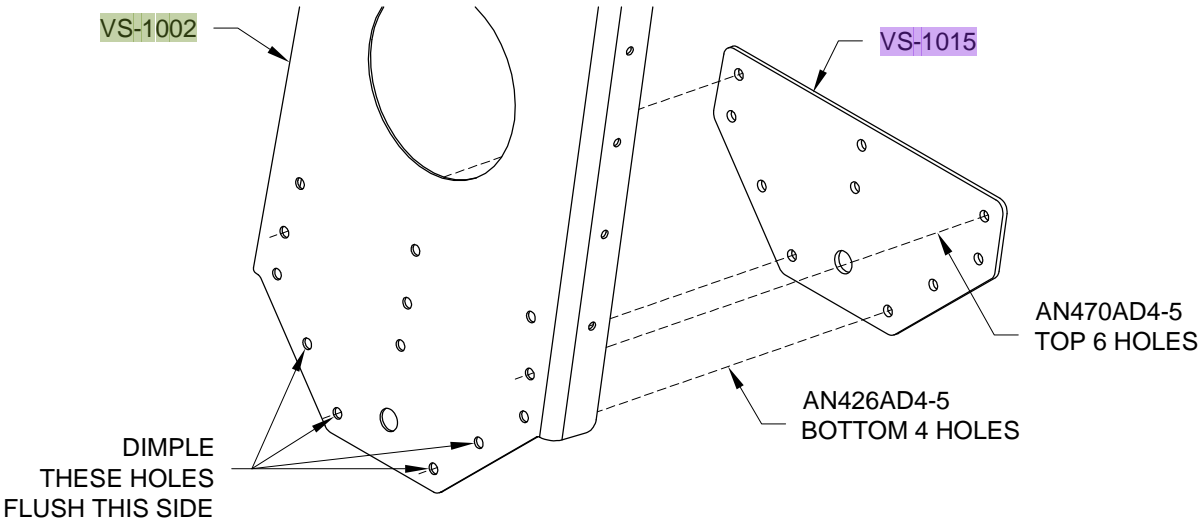

FIGURE 1: FRONT SPAR DOUBLER ATTACHMENT
Dimple the four bottom holes in the front spar (see Figure 1) and machine countersink (Section 5E) the corresponding holes in the front spar doubler. Dimple the flange holes of the front spar for the skin.
Step 4: Attach the VS-1015 Front Spar Doubler to the VS-1002 Front Spar using the rivets called out in Figure 1.